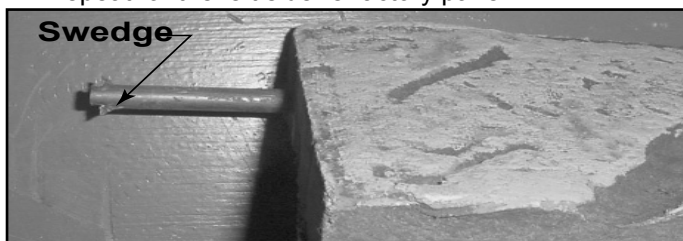
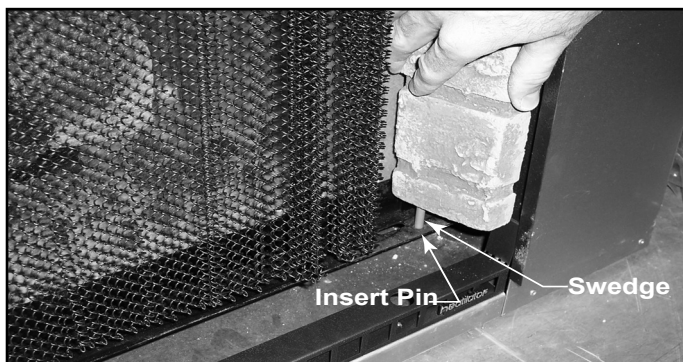

Figure 12.19 Swedge
Figure 12.20 Insert Pin into Bottom Frame
- Install rod with swedge (Figure 12.19) in hole in glass frame bottom. See Figure 12.20.